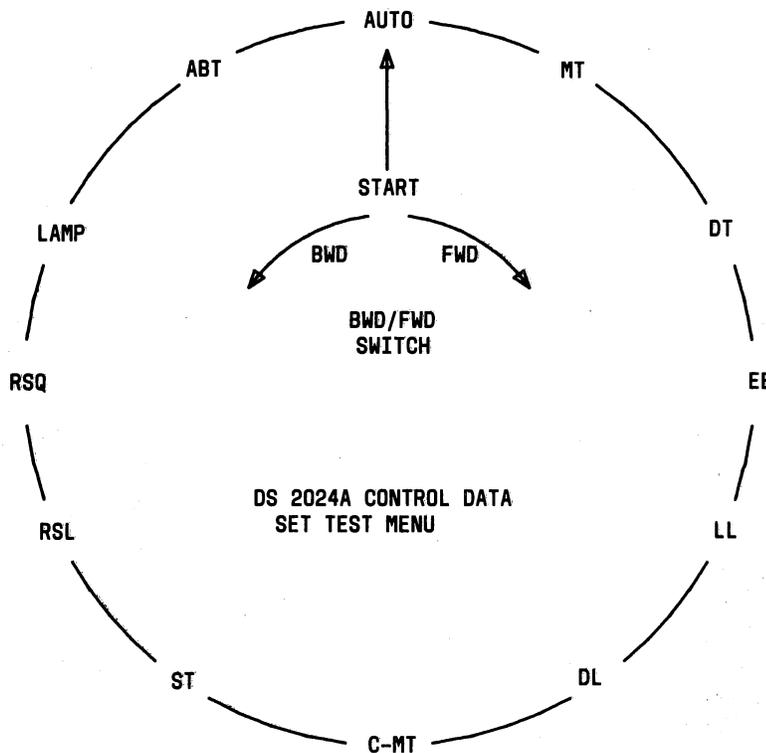

Fig. 35—Example of List Storage in Data Set
4.04 Both the test menu and the command menu (Tables B and C) are stored in the data set in continuous fashion (Fig. 35). That is, the operator can go in either a forward or a backward direction from any point in either repertoire with equal effectiveness.